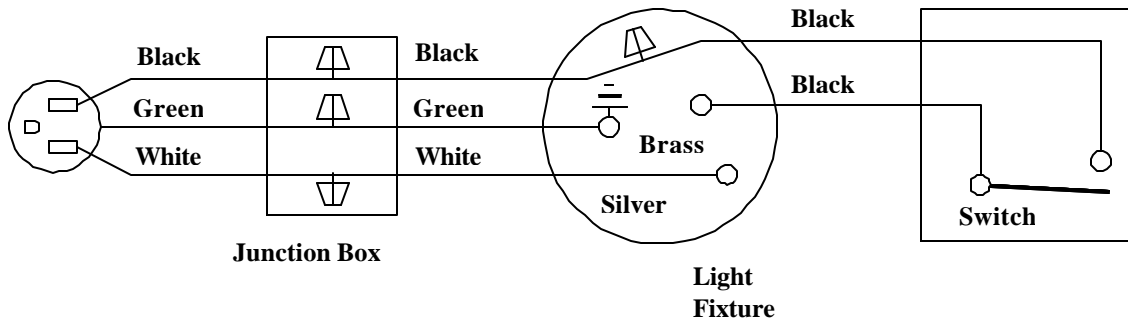

Figure 2. Wiring Schematic
1. Push wiring (12) through bushing (14) and into box (11).
2. Remove tags and connect wiring (12) as shown, and install three wire nuts (13) (reference Wiring Schematic, Figure 2).